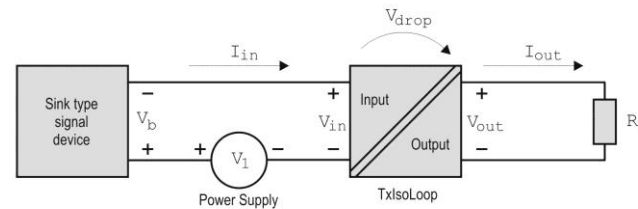

Figure 2 -TxIsoLoop used to isolate a 2-wire transmitter
2. In sink type devices (2-wire transmitters) the energy is provided by an external power supply in series in the loop, as shown in Figure 2.